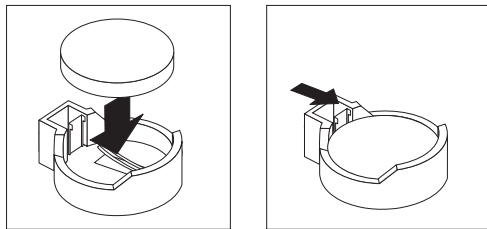

Figure 11. Inserting the new battery
- b. Press the battery down into the socket until it clicks under the battery clip, as shown in Figure 11.